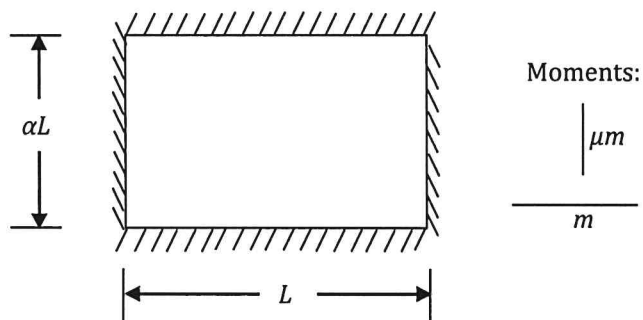

Figure Q4
b) An isotropically reinforced rectangular slab is simply supported along all four sides and subjected to a uniformly distributed load of  $w$  kN/m2 as shown in Figure Q4. Show that the ultimate load that the slab can carry using mechanism method of plastic analysis is given by: **(16mks)**